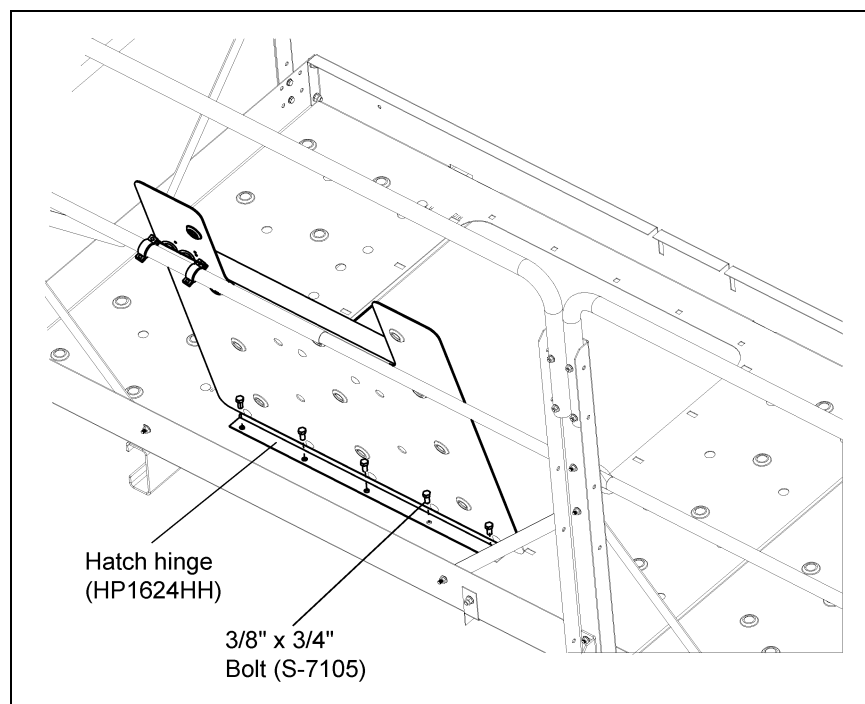

Figure 9D
6. Align holes on the hatch hinge with holes along the deck opening closest to the kick plates. Install the hatch door to the decking using 3/8" x 3/4" bolts (S-7105) and nuts. (See Figure 9D.)